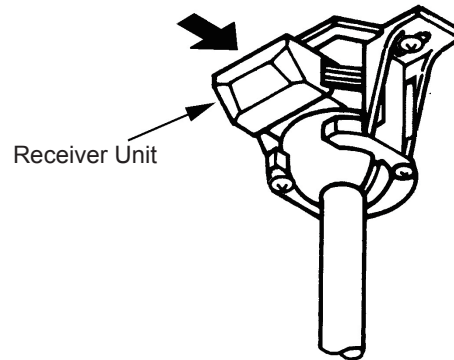

Figure 5.9
Step 9. Carefully turn the connecting nuts upward and push the wiring into the electrical outlet box. There should be space to allow the Receiver Unit to slide in above the Downrod Ball. (Fig. 5.9)